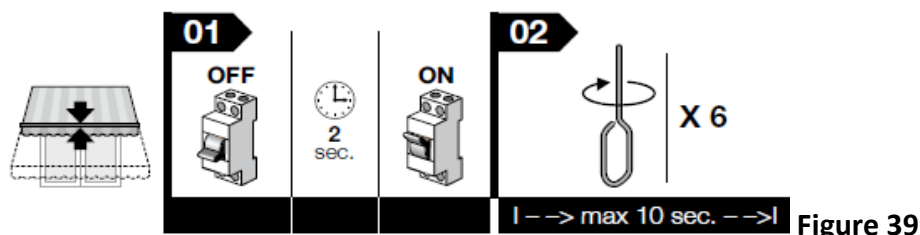

Figure 39
01. Disconnect the AC supply to the motor; wait at least 2 seconds, see figure 39.